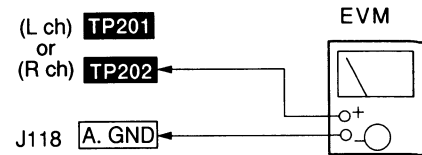

Fig. 2
1. Connect the measuring instrument as shown in Fig. 2.